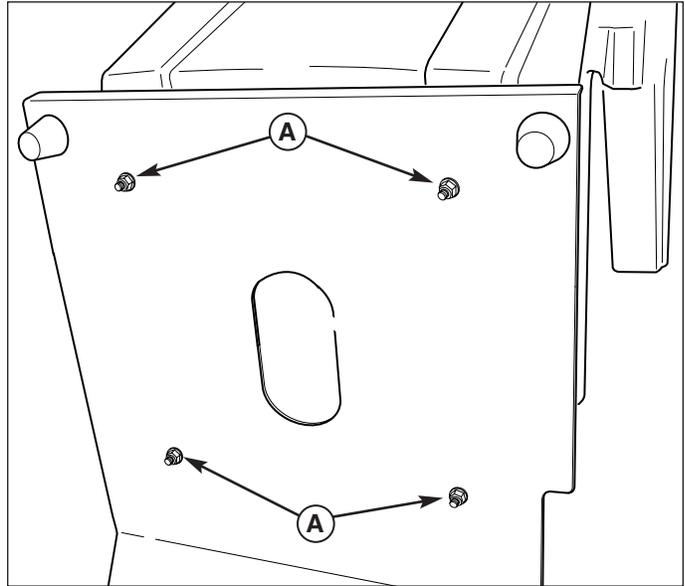

Figure 5. Install Seat & Connect Harness
2. Install the seat onto the seat mount plate and secure with the 5/16-18 nylock flange nuts (A, Figure 5).